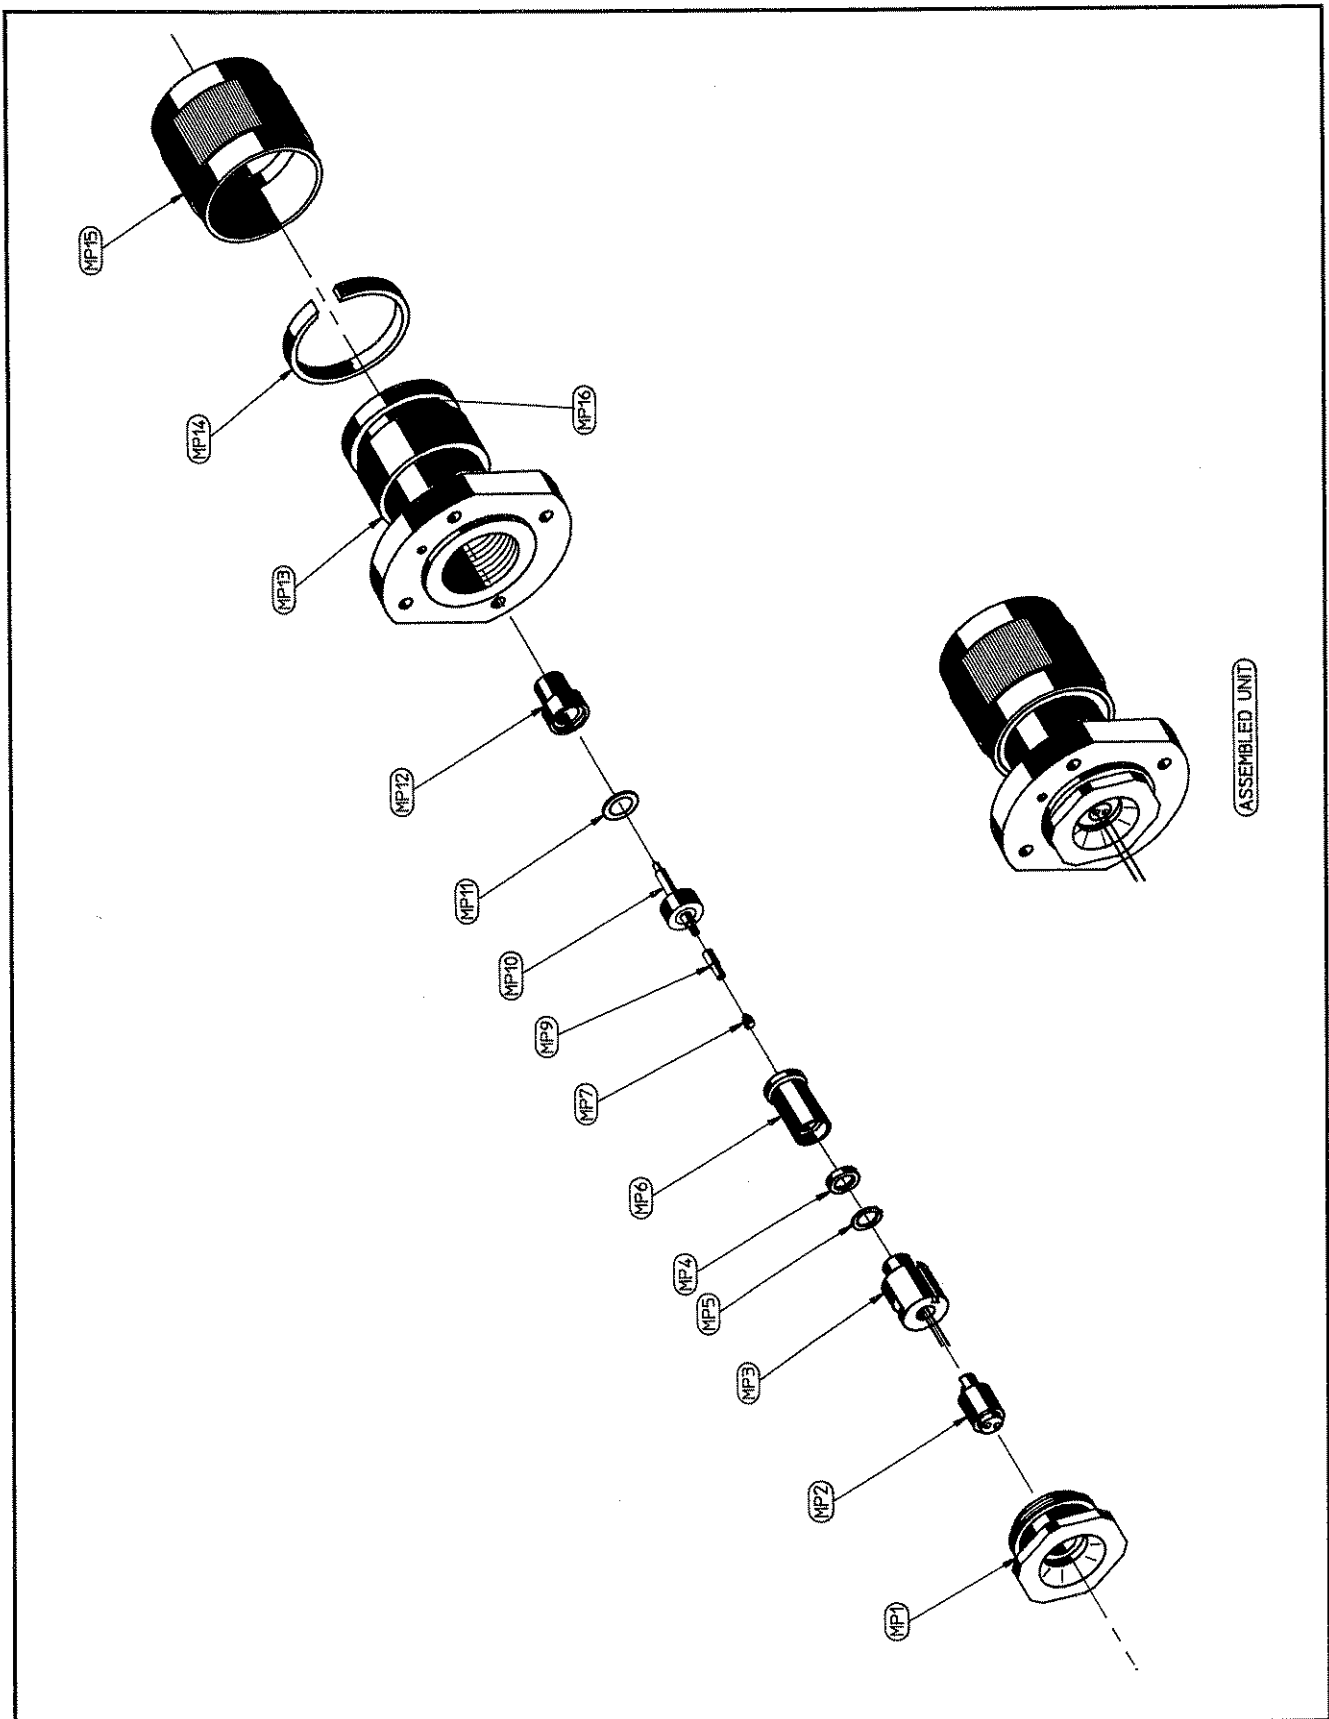

Figure 6. A1 Bulkhead Illustrated Parts Breakdown
1. Refer to the parts list Table 5 and Figure 6. Order the internal bulkhead parts A1MP3 through A1MP12.